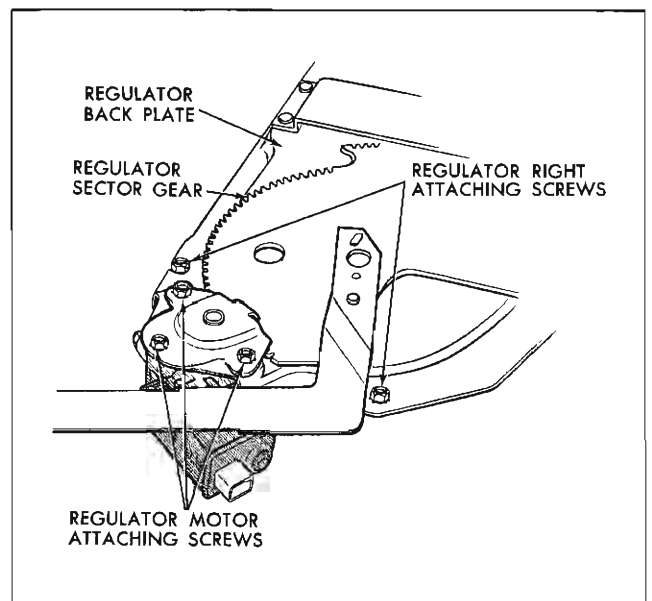

Fig. 5-12 Tail Gate Window Regulator
Drill a 1/8" hole through sector and back plate (Fig. 5-12) - DO NOT drill hole closer than 1/2" to edge of sector or backplate or holes in sector or backplate. Install a pan head sheet metal tapping screw (10-12 x 5/8") in previously drilled 1/8" hole to lock sector gears and retain counterbalance spring tension.
5. Loosen regulator right attaching screws (Fig. 5-12). Remove three motor attaching screws (Fig.